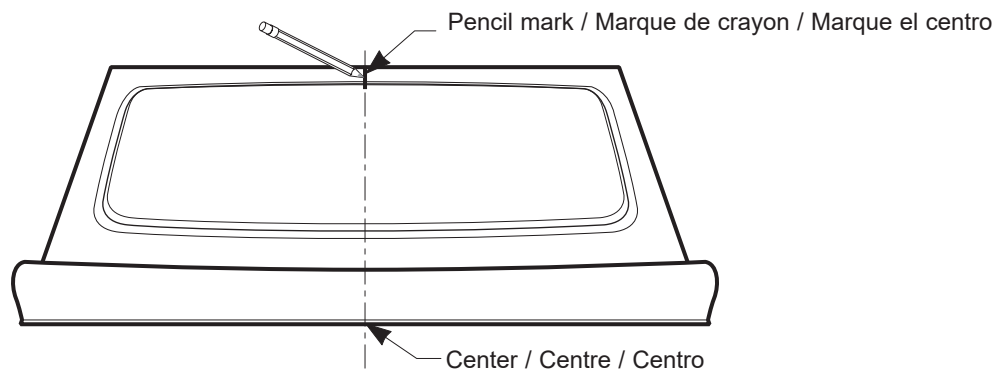

Fig. 2
2. Mark the center of the roof. Fig. 2.
2. Marquez le centre du toit. Fig. 2.
2. Marque el centro del techo. Fig. 2.